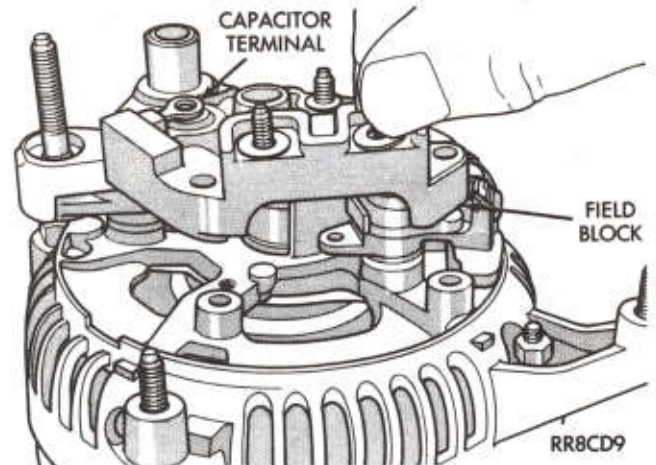

Fig. 8—Remove or Install Field Block
(3) Remove field block attaching (2) screws and lift the field block from the alternator (Fig. 8).